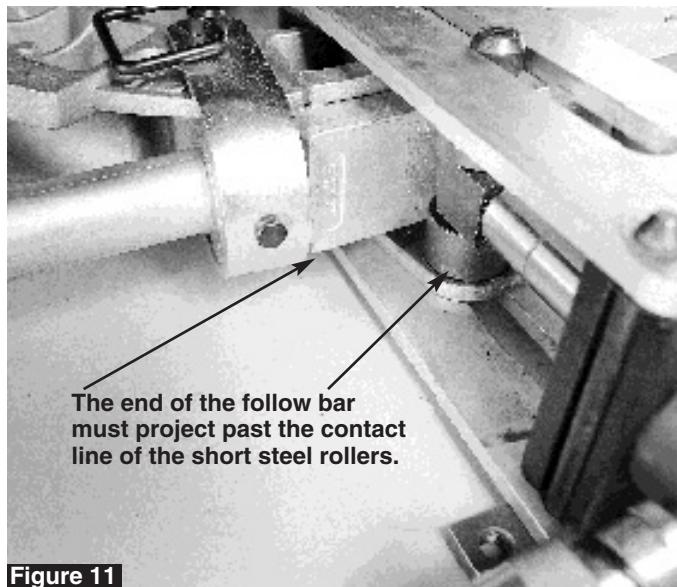

Figure 11
- The end of the follow bar must be inserted at least as far as the rollers at the cylinder rod eye so that all of the short steel rollers can ride on the follow bar pressure surface (see Figure 11).